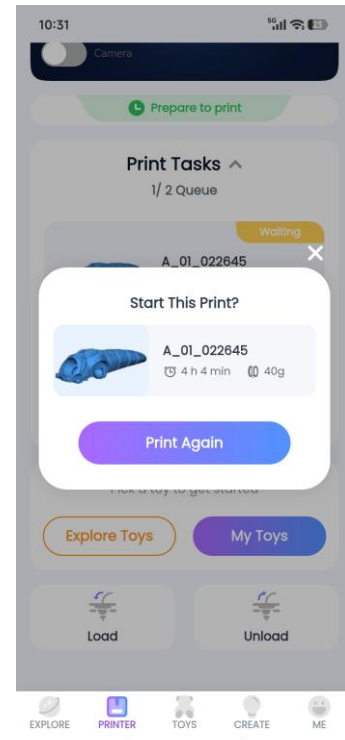

Figure 3
- When printing is complete, it shows the "Print Completed" state, as shown in Figure 3;
A1: After Task 1 is complete, remove the model. Then open the task list in the app, select Task 2, and tap “Start Printing,” as shown in Figure 3.